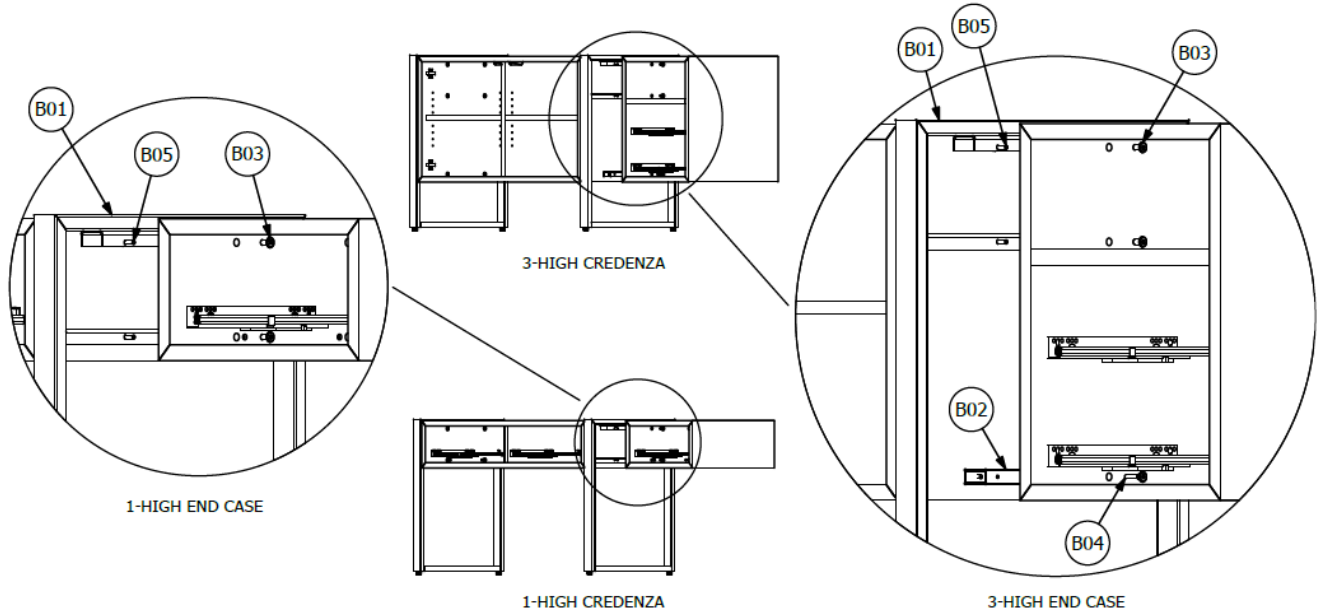

FIG. 08:
3. Using the Hex Bolts previously assembled to the Legs, locate and secure the End Cases using Furniture Nut (B03). See Figure 08.
4. If assembling a 2- or 3-High Credenza, use Furniture Bolt (B04) to attach Case Mount (B02). See Figure 08.